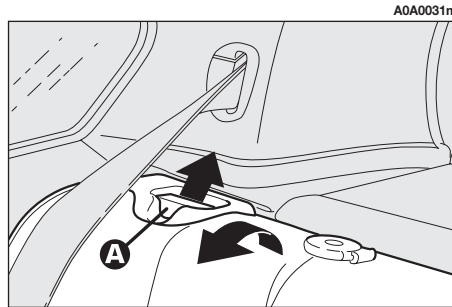
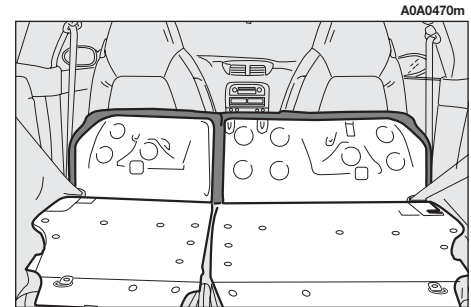

fig. 21
fig. 22
- crossways between the front seat back reats and the tilted cushions of the rear seats if the boot is extended totally (see **fig. 22**).
– raise the levers (**A-fig. 21**) retaining the back rests and tilt them forwards to obtain a single loading surface (**fig. 22**).
– raise the seat backs, pushing them backwards until hearing both clamping devices click into place, checking that the “red band” can no longer be seen on the upper part of the levers (**A-fig. 21**). In fact, this “red band” indicates that the seat back is not clamped;